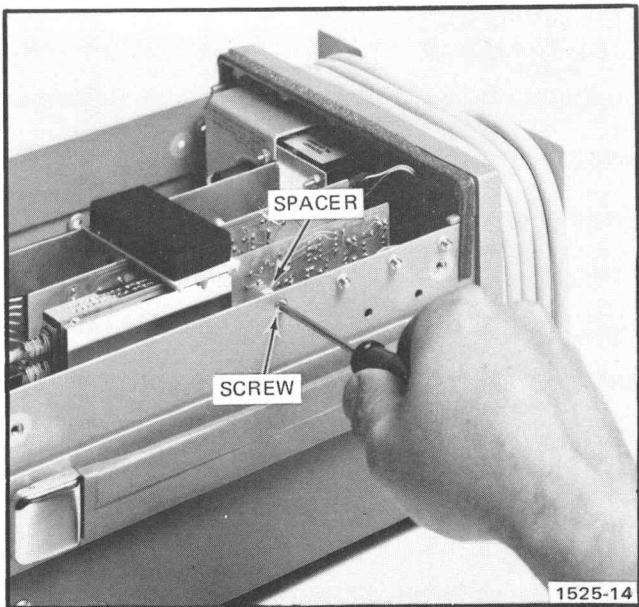

Fig. 5-9. ECG Board securing.
5. **CHECK**—The screw and spacer securing the ECG circuit board are tight. See Fig. 5-9.